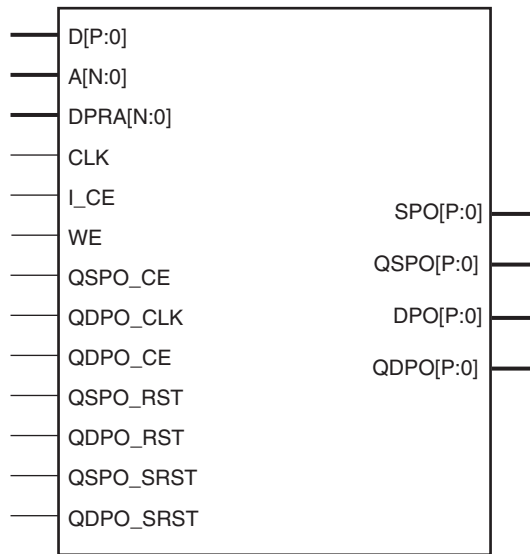
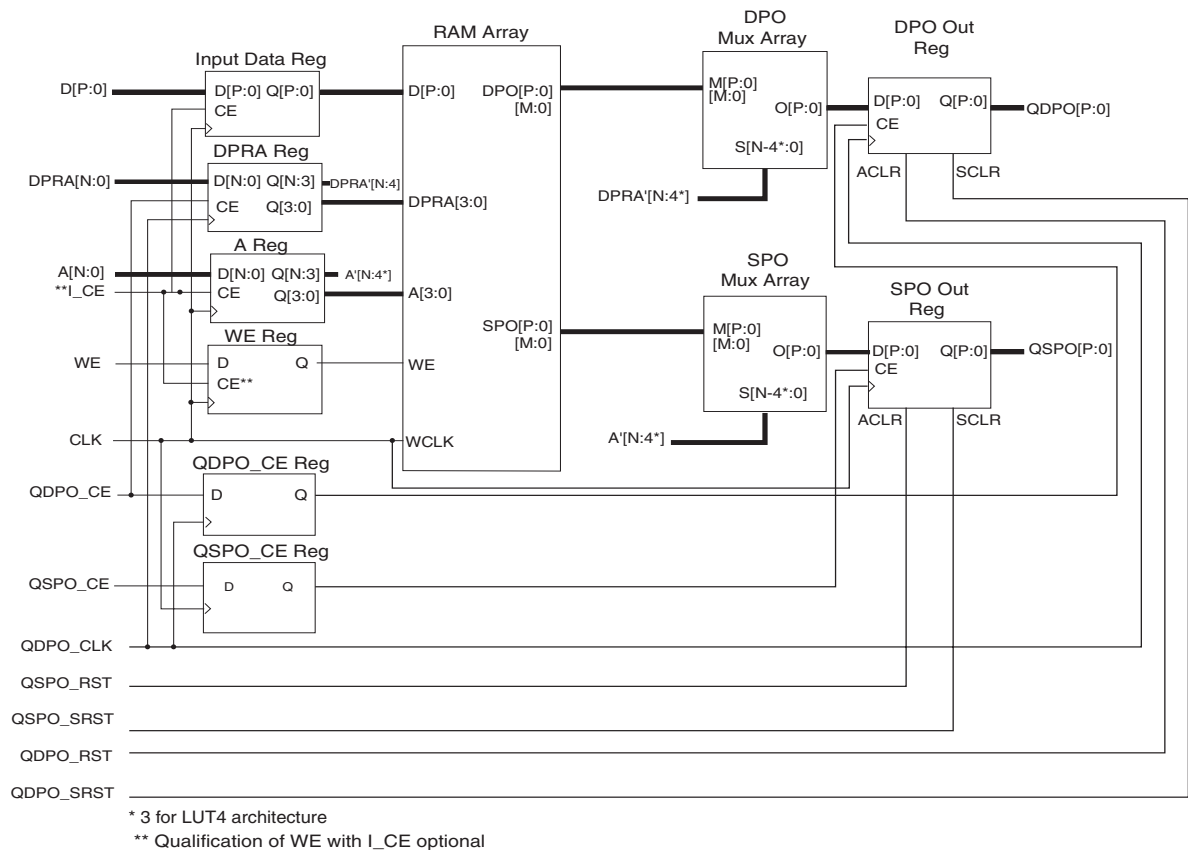

Figure 5: Dual-Port RAM Schematic Symbol
Figure 6: Dual-Port RAM Module Schematic
Writes to the distributed dual-port RAM are synchronous to the clock (CLK). However, read operations from the distributed dual-port RAM can be asynchronous or synchronous with respect to either of the two clocks (CLK or QDPO\_CLK). Figure 5 illustrates the dual-port RAM schematic symbol, showing the relevant ports. Figure 6 shows the internal implementation of the distributed dual-port RAM. If a pipeline register is added to a registered core (not illustrated), the additional register is re-timed into the SPO MUX array and DPO MUX array.
- **Dual-Port RAM.** Figure 6 is a schematic of the structure of the dual-port RAM modules. The address and data registers are optional (controlled by the setting of the Input Options parameter). The dual-port read address register is optional (controlled by the setting of the Dual-Port Address parameter). Output registers for both output ports are also optional (controlled by the setting of the Output Options parameter). When registered outputs are selected, the two output ports can be